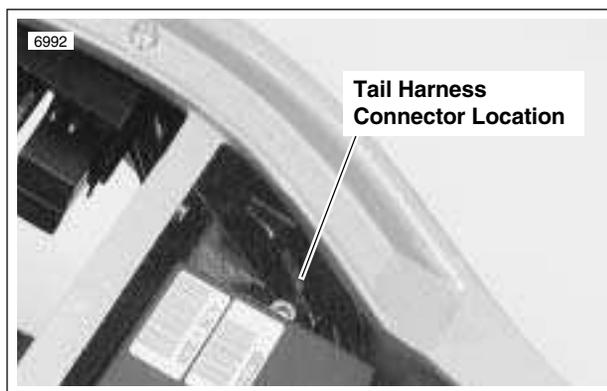

Figure 2-130. Wiring Harness
5. See Figure 2-130. Disconnect tail harness.